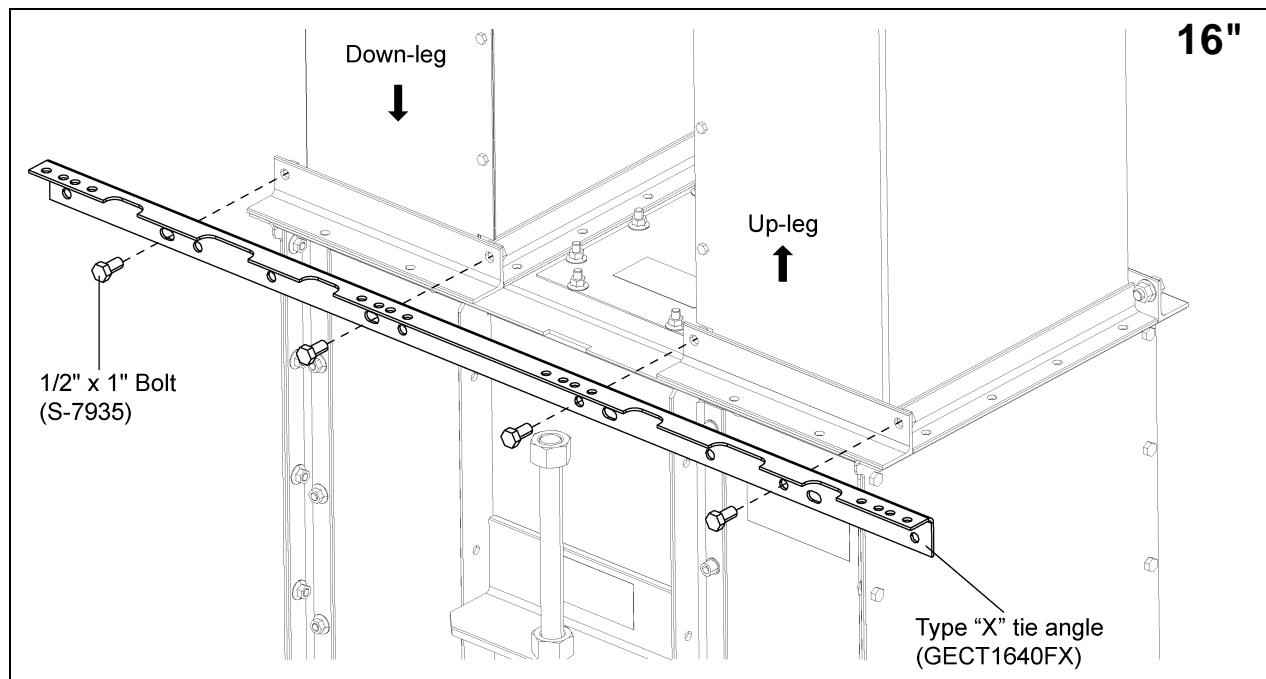
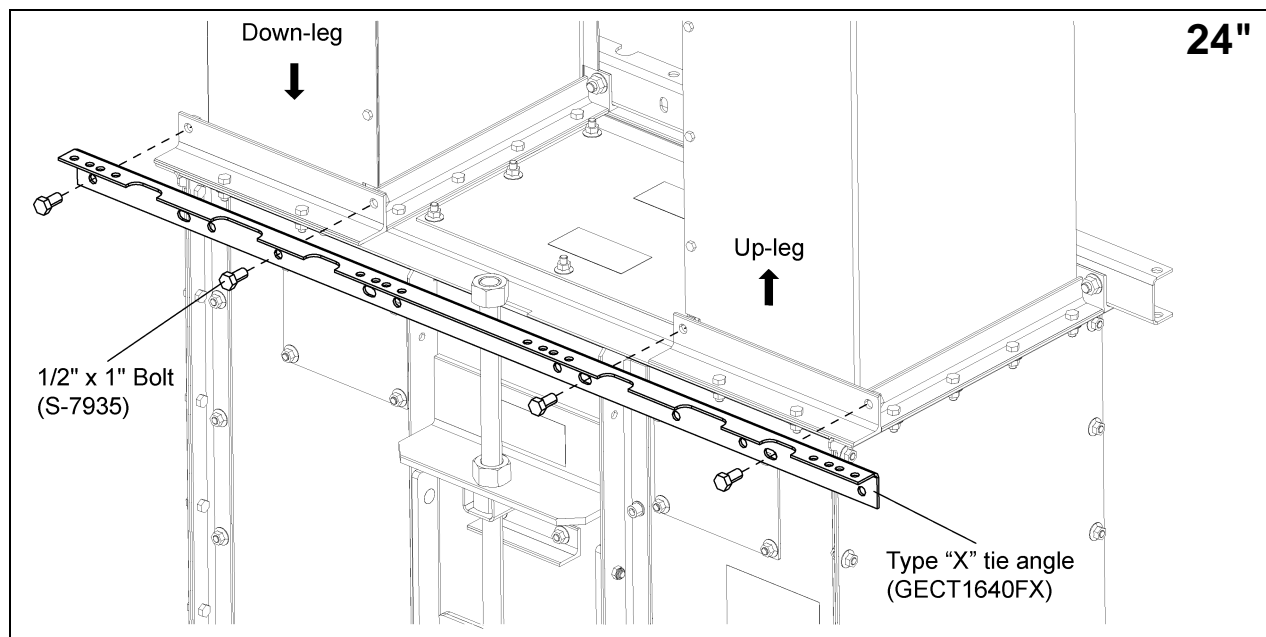
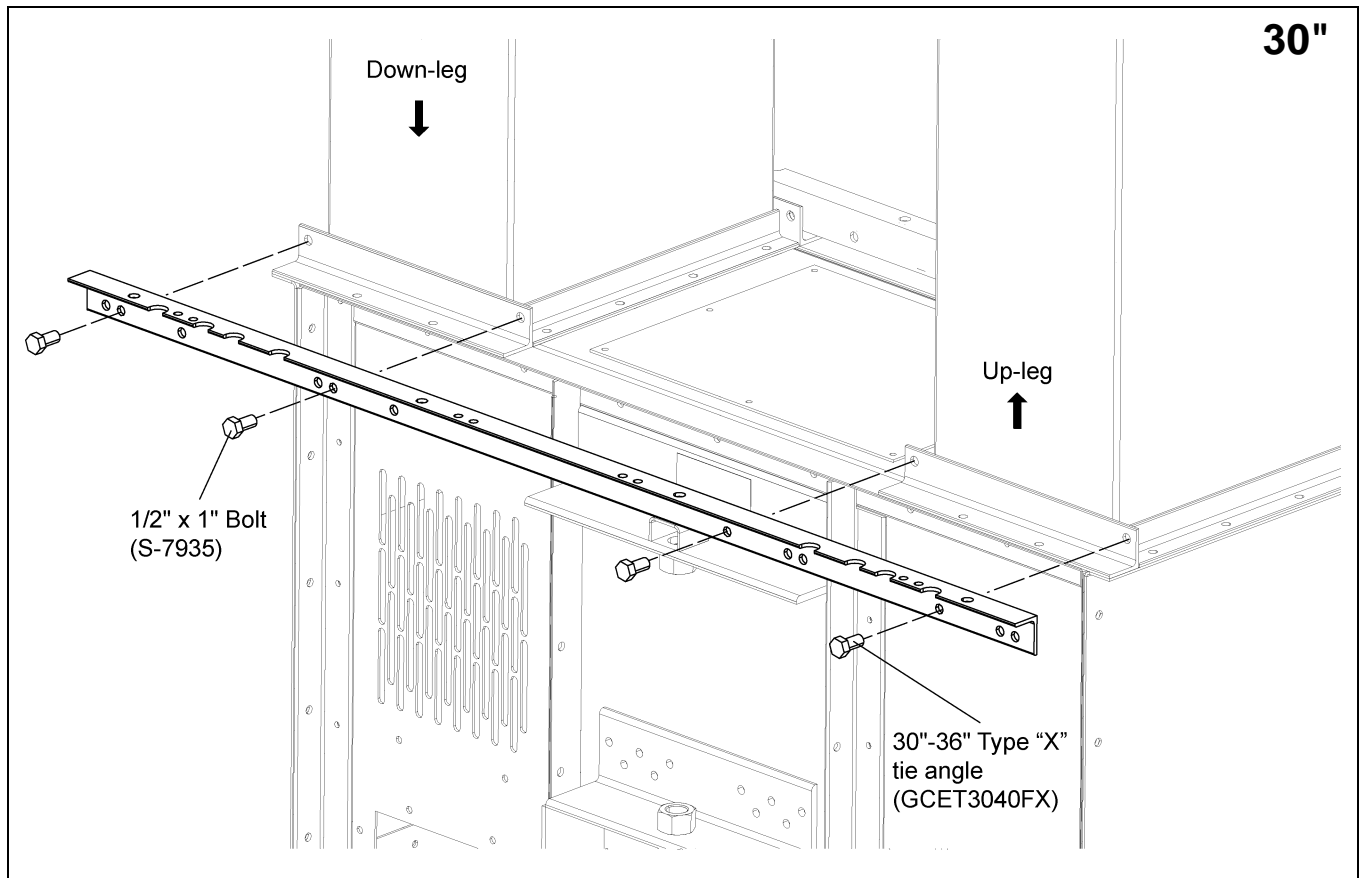
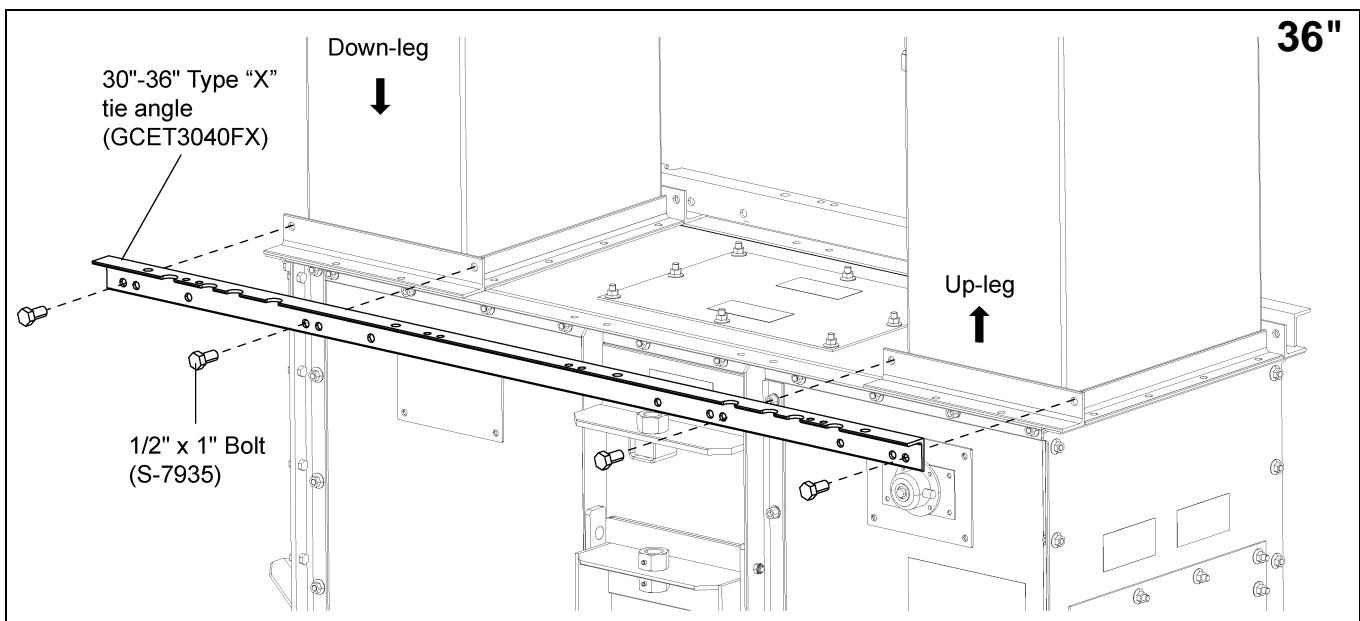

Figure 4H 16" Boot Tie Angle
Figure 4I 24" Boot Tie Angle
Figure 4J 30" Boot Tie Angle
Figure 4K 36" Boot Tie Angle
1. Attach tie angle to the trunking using 1/2" x 1" bolts. (See Figure 4H, Figure 4I below, Figure 4J and Figure 4K on Page 19.)
- a. **For 16"**: With lip of tie angle up and outward, align tie angle so that it extends beyond the trunking at each end. (See Figure 4H.)
- b. **For 24"**: With lip of tie angle up and outward, align edge of tie angle to edge of trunking at down-leg end. With this alignment, tie angle will extend slightly beyond the edge of trunking at the up-leg end, as shown in Figure 4I.
- c. **For 30"**: With lip of tie angle up and outward, align tie angle so that one hole is open at the down-leg end and two (2) holes are open at the up-leg end, as shown in Figure 4J.
- d. **For 36"**: With lip of tie angle up and outward, align both edges of tie angle to edges of trunking. Note the tie angle will not extend beyond the trunking. (See Figure 4K.)